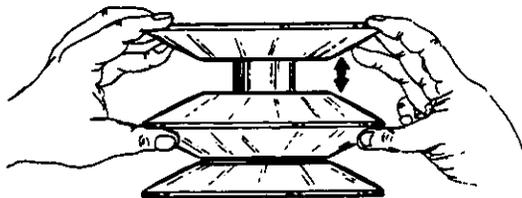

FIGURE 12.
15. The variable speed pulley is especially important in movement and lubrication. Simply check the center sheave by sliding it up and down and lubricate. See figure 12. If variable speed pulley does not work freely, replace it.